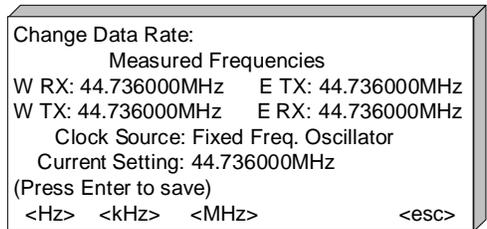

Figure 4.5 Change Delay Screen
3. Press any number key on the numeric keypad or press **ENTER** to display the **CHANGE DELAY** screen (see Figure 4.5).